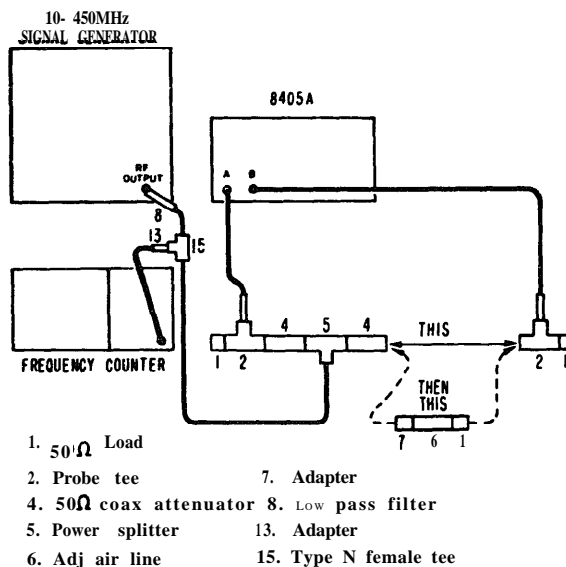

Figure 5. Phase Accuracy Check
Figure 5 is given by
1. Set up equipment as shown in Figure 5.